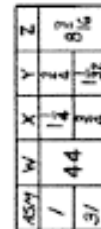

Figure 53. Positive interlock M-26 units
- 4.5. Hold the clutch handle in the forward position until a limit switch on the structure opens to stop the motor at the end of the upward travel of the breaker. The springs will charge when the clutch handle is released. Figure 53.